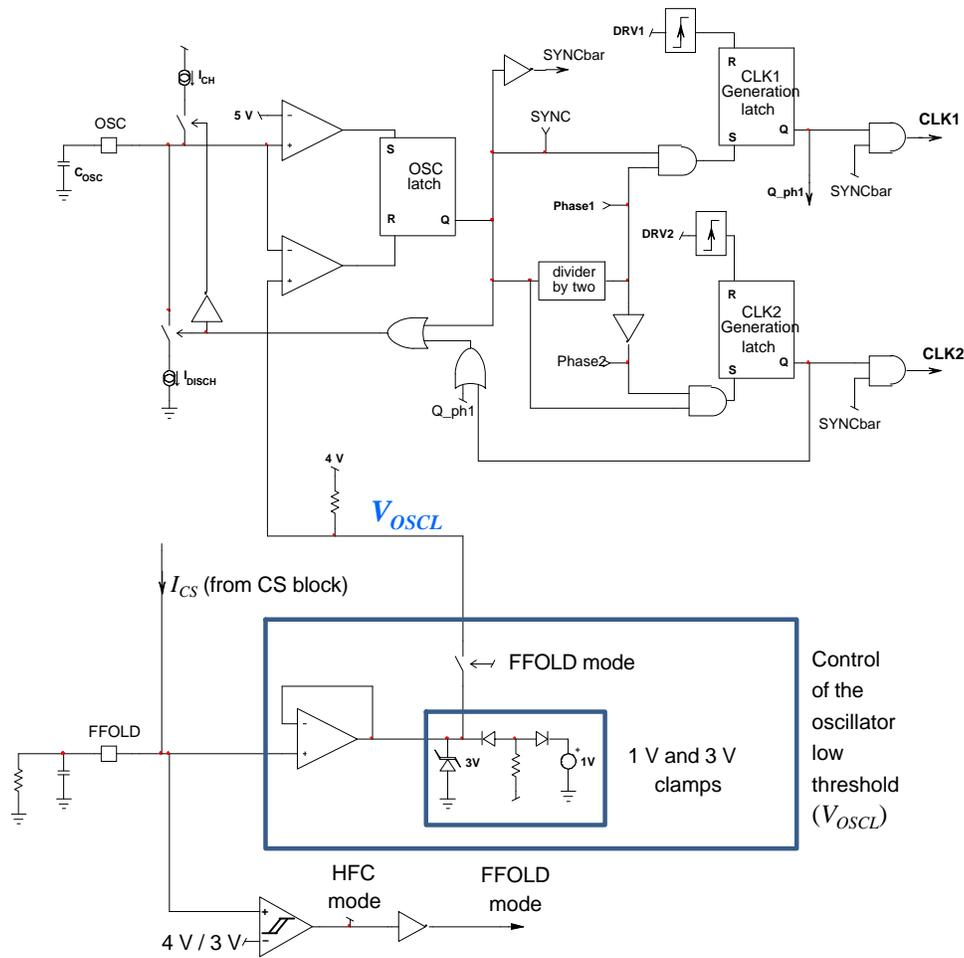
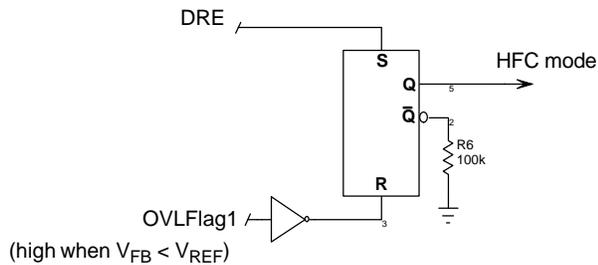
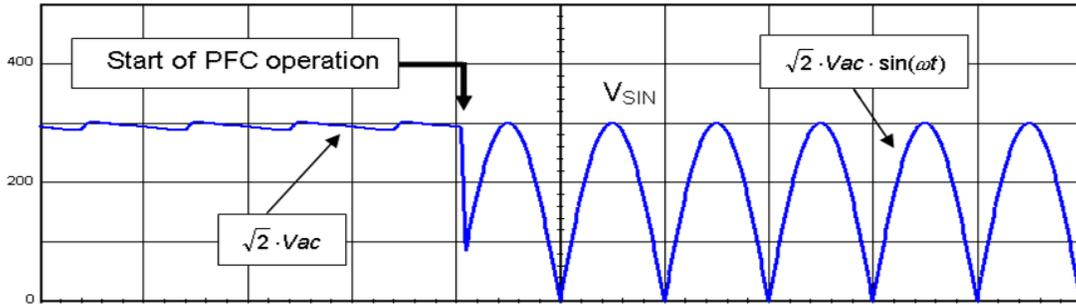

Figure 13. FFOLD Mode Management
Figure 19. Easing HFC-mode Recovery
Figure 22. Typical Input Voltage of a PFC Stage
As shown by Figure 13, a current source I_{CH} (140 μ A typically) charges the OSC pin capacitor until its voltage exceeds $V_{OSC(high)}$ (5 V typically). At that moment, the oscillator enters a discharge phase for which I_{DISCH} (105 μ A typ.) discharges the OSC pin capacitor. This sequence lasts until V_{OSC} goes below the oscillator low threshold V_{OSCL} and a new charging phase starts*. An internal signal (“ $SYNC$ ” of Figure 19) is high during the discharge phase. A divider by two uses the $SYNC$ information to manage the phases of the interleaved PFC: the first $SYNC$ pulse sets “phase 1”, the second one, “phase 2”, the third one phase 1 again... etc.
of operation, the PFC stage may run in DCM and may not be able to provide the full power. To solve this, the NCP1632 forces HFC operation whenever the DRE comparator trips* and remains in HFC mode until the output voltage recovers its regulation level (that is when *OVLFlag1* of Figure 22 turns low). At that moment, the conduction mode is normally selected as a function of the FFOLD pin voltage. See Figure 19.
- ♦ Before operation, the PFC stage is off and the input bridge acts as a peak detector (refer to Figure 22). As a consequence, the input voltage is approximately flat and nearly equates the ac line